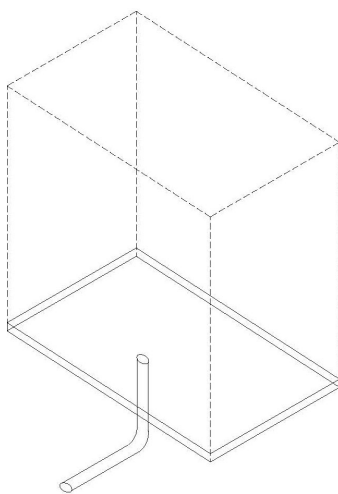

Figure 112. Pad Drain for Freestanding Switchboard (STD-D-6266)
- When water intrusion can reasonably be expected, the customer must provide a means to prevent water from accumulating in the pull and termination sections. This can be done by providing a water collection system—a concrete well, for example—under the pull and termination sections along with a gravity drain or sump pump to remove any standing water. Figure 112 shows a pad drain for freestanding switchboard.